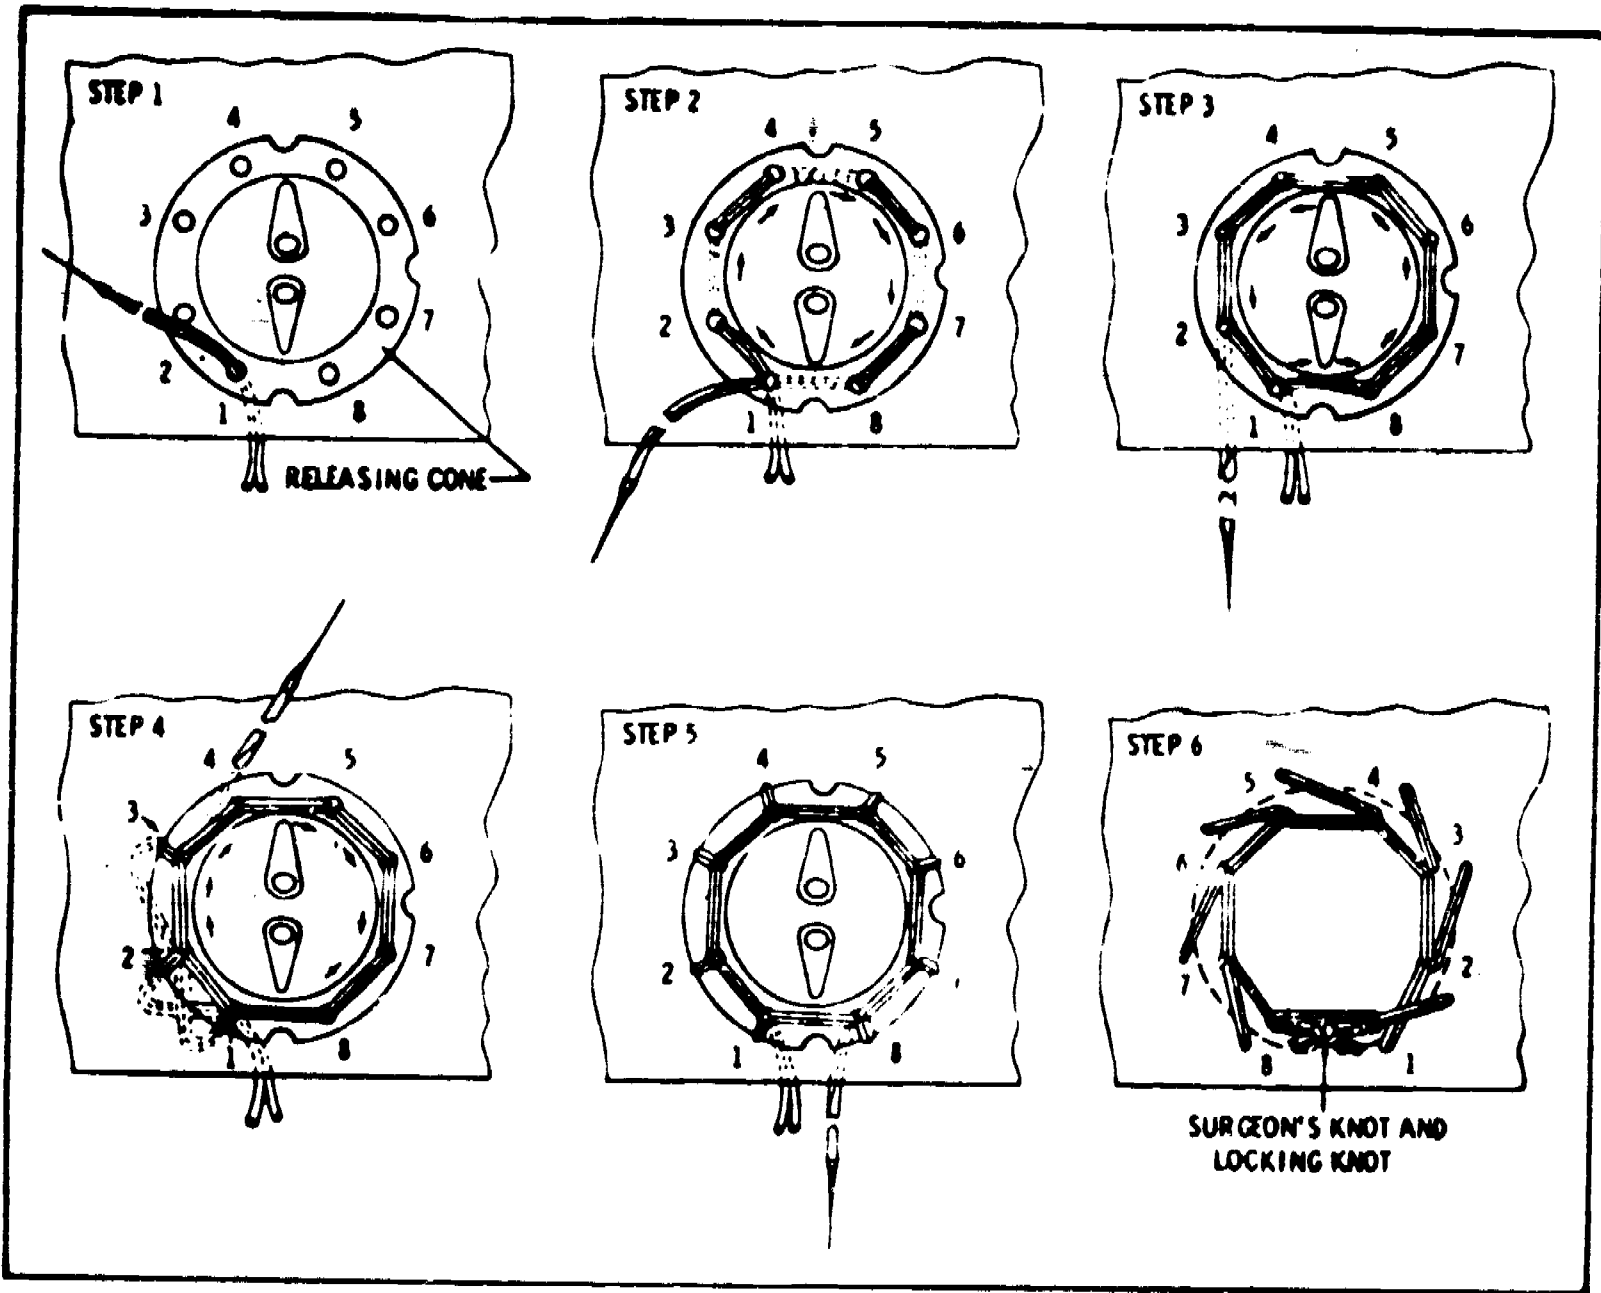

Figure 6. Installing eyelet.
- b. Use size six (6) cord cotton doubled and waxed.
- d. Refer to figure 6. Start sewing from underneath (step 1, position 1). Sew in a clockwise direction until needle comes up at position 1 again. (Step 2.)